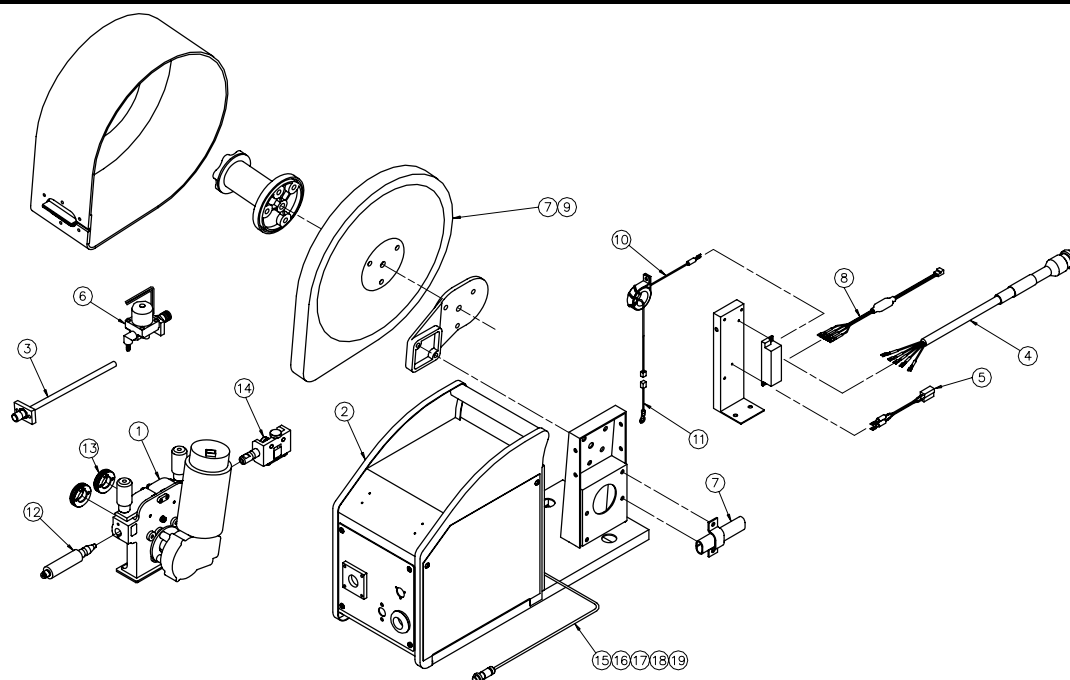

Fig. 6.1 Exploded diagram of wire feeding unit (AFAF-4001)
- If the parts are getting worn out or damaged while using the wire feeding unit, see Fig. 6.1 ~ 6.4 and Table 6.1 ~ 6.7 to place an order with our sales office or agent. When ordering, be sure to provide the item name and part No. Note that the component indicated by () for its quantity is an optional item.